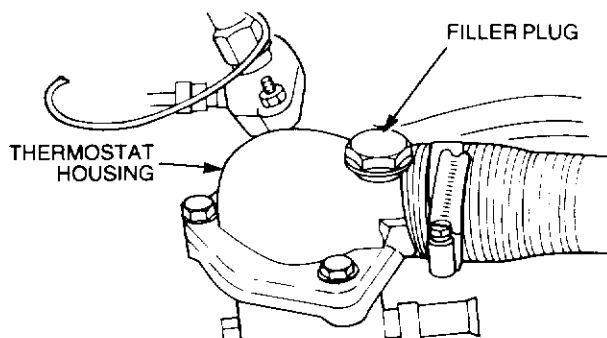

Figure 3-1 Thermostat housing
- b. Remove the brass filler plug from the thermostat housing (see Fig. 3-1).